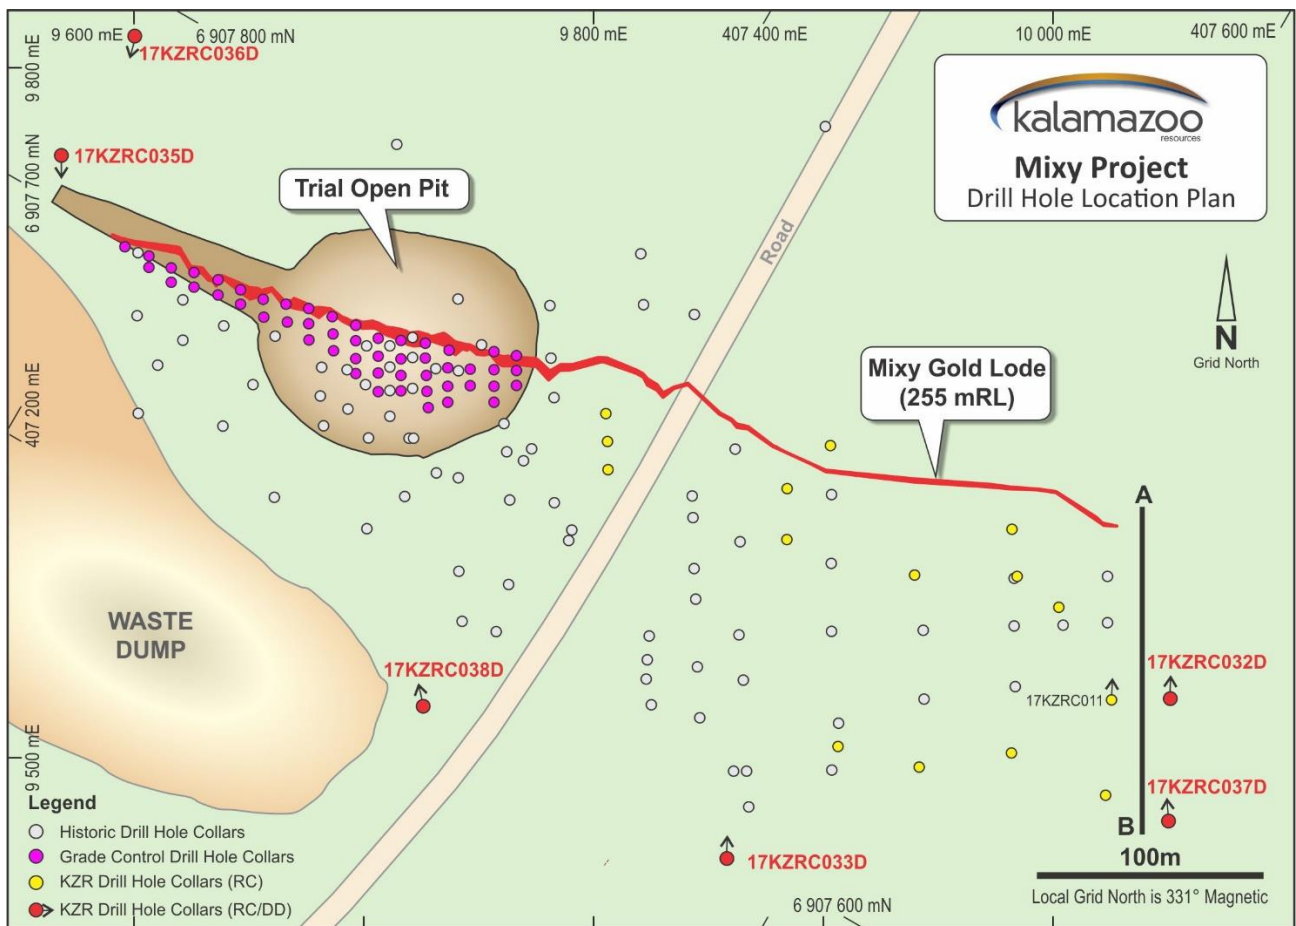
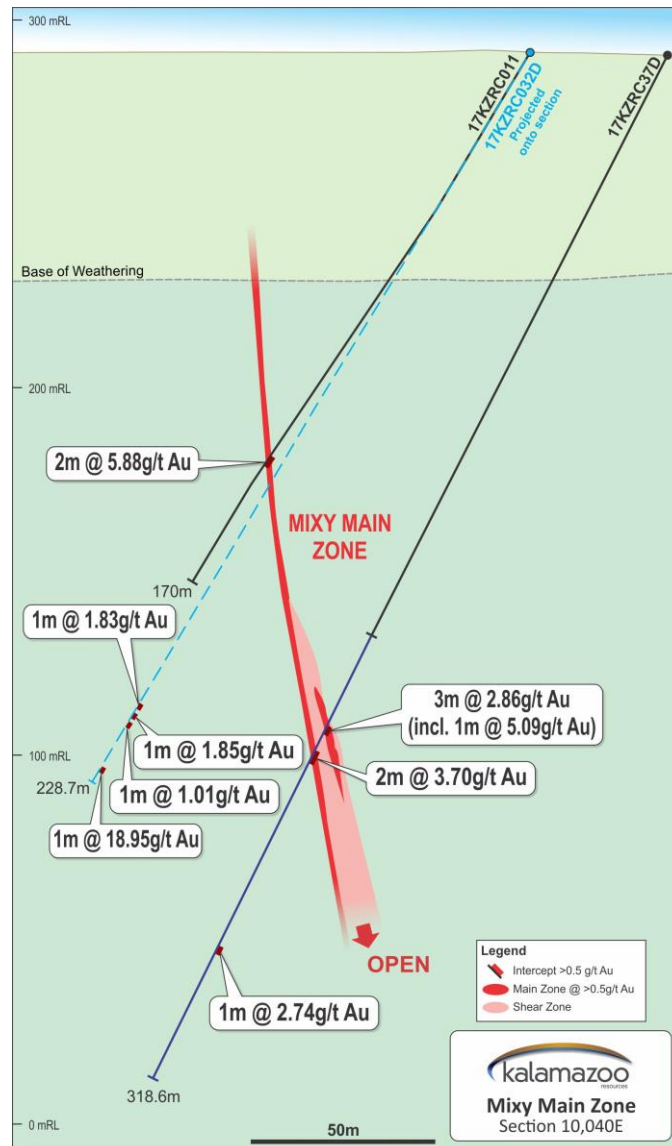

Figure 3. Drill collar locations, Mixy Lode and Section A-B
Figure 5. Cross section 10040E, A-B, Mixy Lode
Six widely spaced drill holes with Reverse Circulation (RC) pre-collars and diamond core tails were completed for a total of 1,597m. The holes ranged in downhole depth from 78m to 394m. Collar locations are shown in Figure 3, pierce points are shown in the longitudinal section (Figure 4), drill hole details and assays are listed in Tables 1 and 2 respectively and a cross section is shown in Figure 5. The JORC Code (2012) Table 1 compliance details are appended to this report.
The eastern extremity hole (17KZRC037D) intersected Main Zone high grade gold intervals of 1m at 5.1g/t Au and 2m at 3.7g/t Au within a broader zone of 9m at 1.54g/t Au from 211-220m downhole. Importantly, these results indicate down dip continuity from an intersection of 2m at 5.88g/t Au in RC hole 17KZRC011 (Figure 5) reported to the ASX on 14th June 2017, which opens the area east of this location due to a lack of effective drilling.
The previously reported (ASX: KZR 1st March 2018) 6.3m downhole width of multiphase quartz veining from 281-287.3m in 17KZRC037D on the footwall (northern) side of the Main Zone returned one metre at 2.74 g/t (280-281m) at the vein contact. The up-dip projection of this footwall zone in 17KZRC032D includes several metres of grades between 1 and 2 g/t, and a high-grade maximum of 1m at 18.95 g/t Au from 224-225m downhole (Figure 5). As for the Main Zone, this footwall mineralisation is open down dip, and to the east.